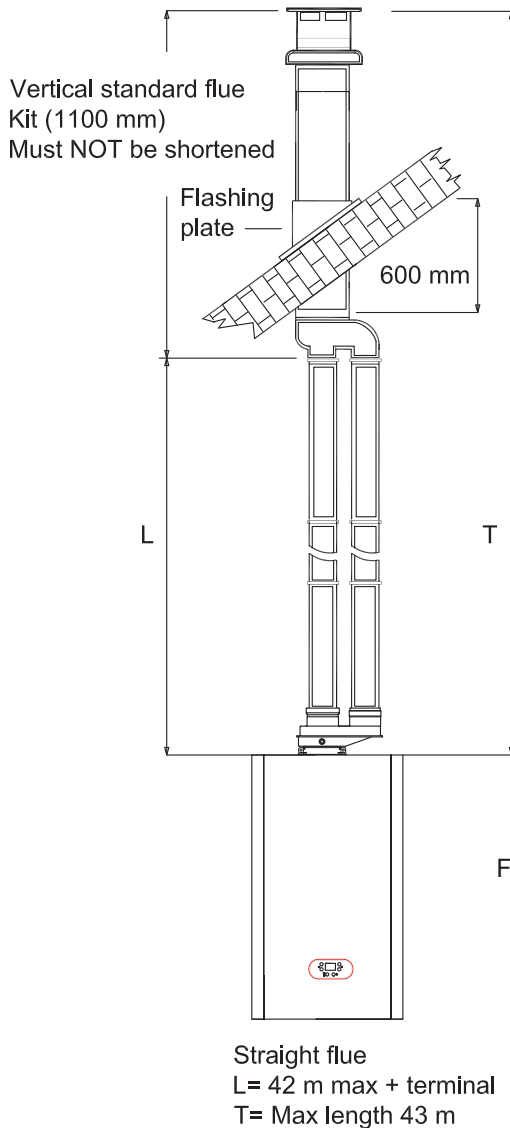

Fig. 24
Typical installation procedures are illustrated by the drawing (fig.24).
**5.16 Exhaust/suction system with concentric pipes for flat or sloping roofs. Extensions with two separate pipes (fig. 24).**